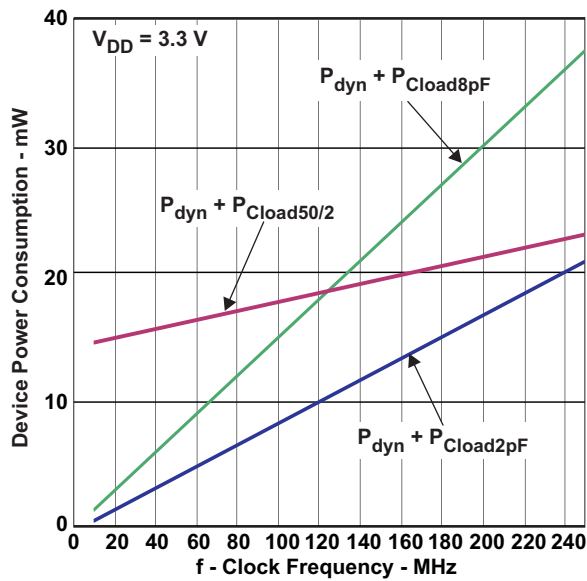
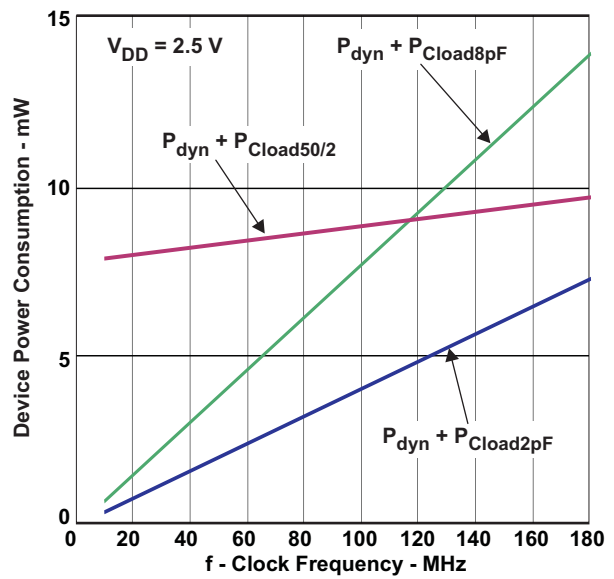

Figure 8. Device Power Consumption vs Clock Frequency (Load 50Ω into VDD/2. 2pF, 8pF; Per Output)
Figure 9. Device Power Consumption vs Clock Frequency (Load 50Ω into VDD/2. 2pF, 8pF; Per Output)
(2) For dynamic IDD over frequency see Figure 8 and Figure 9.
(3) This is the formula for the power dissipation calculation (see Figure 8 and the Power Consideration section).
The output load can be capacitive only or capacitive and resistive. The following formula and the power graphs in Figure 8 and Figure 9 can be used to obtain the power consumption of the device:
$$P_{dyn} + P_{Cload} = \text{see Figure 8 and Figure 9}$$